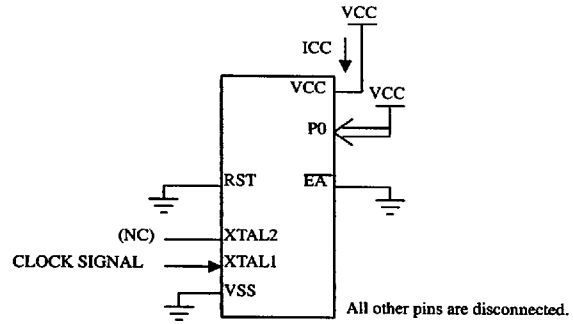
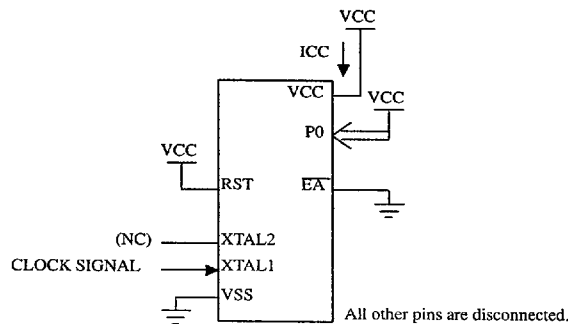

Figure 20. ICC Test Condition, Idle Mode.
Figure 19. ICC Test Condition, Active Mode.
1. ICC is measured with all output pins disconnected; XTAL1 driven with TCLCH, TCHCL = 5 ns (see Figure 20.), VIL = VSS + 0.5V, VIH = VCC - 0.5V; XTAL2 N.C.; EA = RST = Port 0 = VCC. ICC would be slightly higher if a crystal oscillator used (see Figure 19.).
2. Idle ICC is measured with all output pins disconnected; XTAL1 driven with TCLCH, TCHCL = 5ns, VIL = VSS + 0.5V, VIH = VCC - 0.5V; XTAL2 N.C.; Port 0 = VCC; EA = RST = VSS (see Figure 20.).